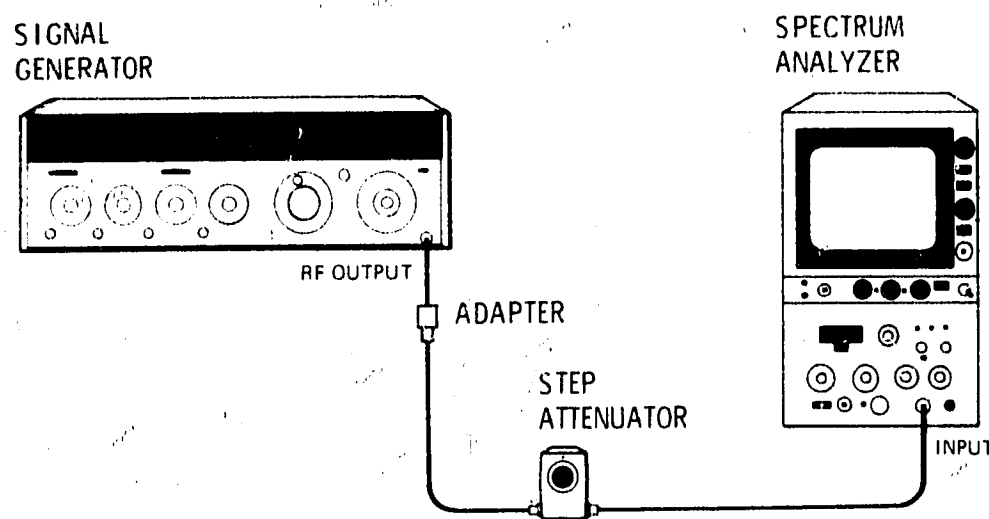

Figure 4-19. Input Attenuator Accuracy Test Setup
2. Connect equipment as shown in Figure 4-19 with step attenuator set at 0 dB. Locate signal on CRT and adjust signal generator output level until trace is 6 divisions above graticule baseline.